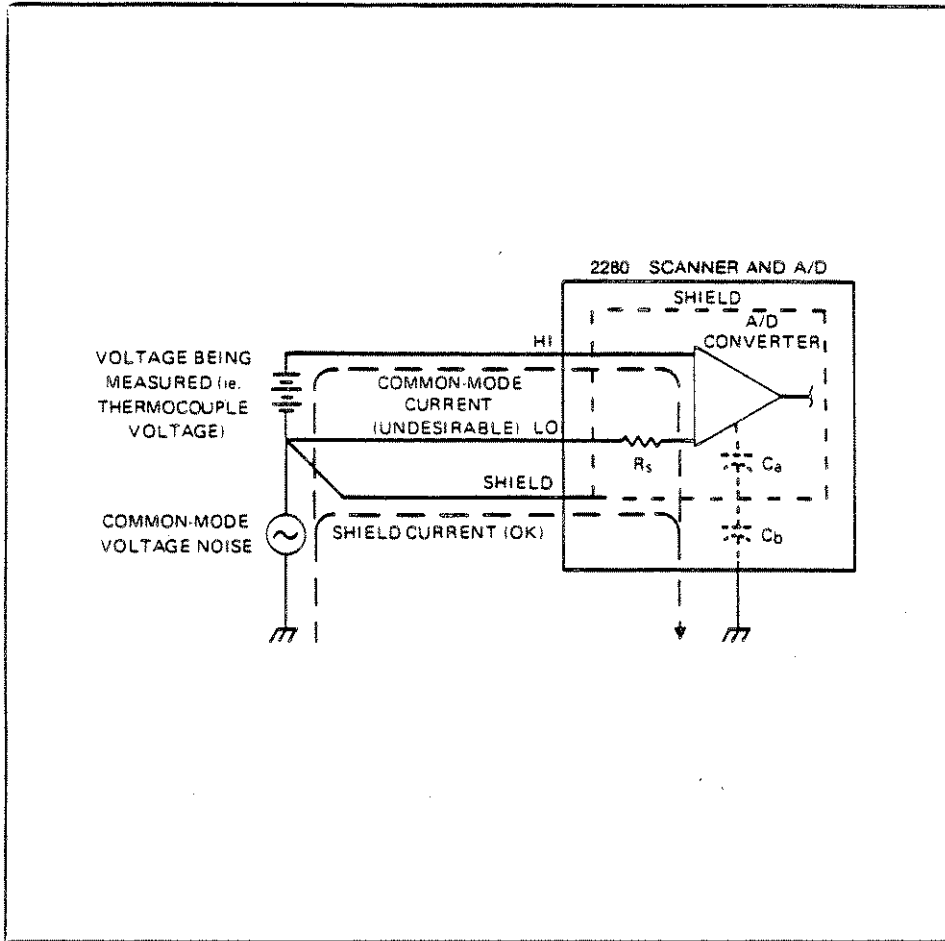

Figure 175-2. Shield Connection for Optimum Common Mode Rejection
Current resulting from a capacitive charge and discharge between the A/D Converter and the chassis can produce unstable readings. Therefore, a path for this current is utilized by connecting the SHIELD lead to the LOW lead at the measurement point. This arrangement improves common-mode noise rejection. It is shown in Figure 175-2. With the A/D Converter and the instrument shield tracking the same voltage, common-mode current in the HI and LOW leads is minimized. Note that HI, LOW and Shield are fully isolated and capable of being safely floated to 250 volts above ground.
2. If significant common mode voltage (greater than one volt) is present, connect SHIELD to LOW by means of a third wire at the measurement point. This arrangement is shown in Figure 175-2.